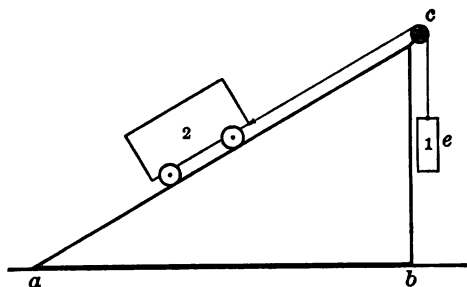
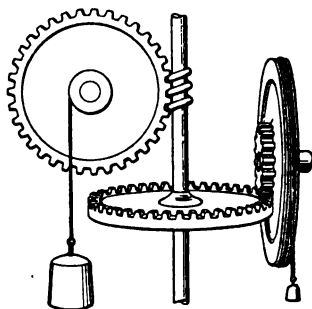

FIG. 93
FIG. 94
6. Many other mechanical devices are familiar. A *crank* or *eccentric* may be considered as a wheel and axle or as a lever. The *inclined plane* (Fig. 93) is just the same in principle as the wedge : if, in the figure, the side  $ac$  is twice as long as  $bc$ , every pound of weight or force at  $e$  will balance two pounds on the inclined plane. *Gear wheels* (Fig. 94) are very commonly used